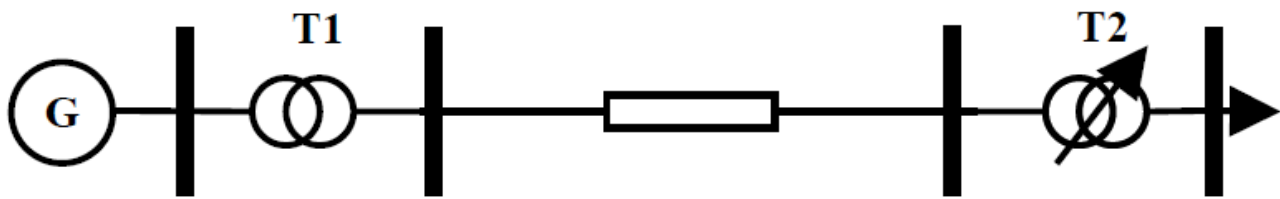

Fig. 2. The studied system in section 3
- 3.1. Let us add an OLTC to the transformer T2 as shown in Fig. 2 by opening the file Assignment2_OLTC.pscx from the zip file that you downloaded from POP. Note that the tap changer model is ready-made in the PSCAD file and should not be modified.